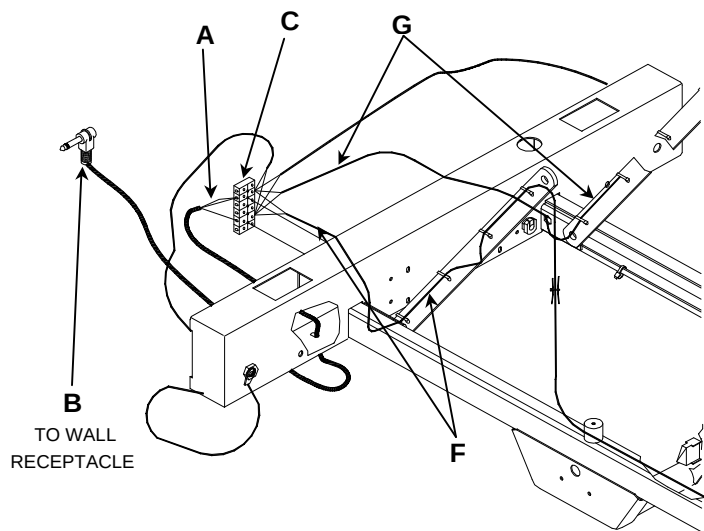

Figure 4.5
9. Identify the right (**F**, fig. 4.5, page 29) or left (**G**, fig. 4.5, page 29) nurse call cable wires, cut the cable tie if necessary.
10. Loosen the two screws holding the two groups of red and black wires on the multiple connector (**C**, fig. 4.5, page 29), remove both groups of wires and segregate the two red and black wires of the defective nurse call control.